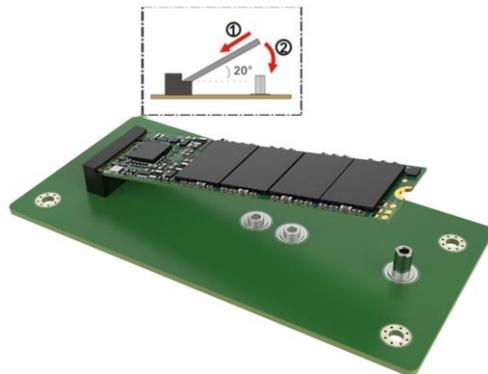

Figure 3-6: Insert the M.2 SSD Module
Step 3: Line up the notch on the module with the notch on the slot. Slide the M.2 module into the slot at an angle of about 20° (**Figure 3-6**).